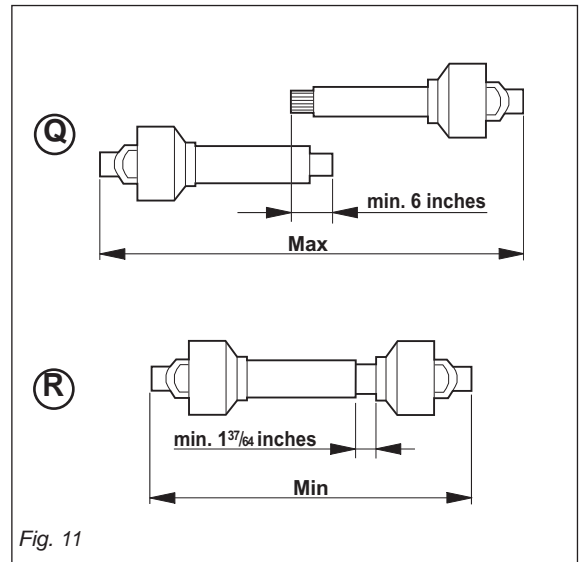

Fig. 11
- When the PTO shaft is fully extended, the two tubes must overlap by at least 6 inches (Q Fig. 11). When fully inserted, the minimum play must be $1\frac{37}{64}$ inches (R Fig.11).